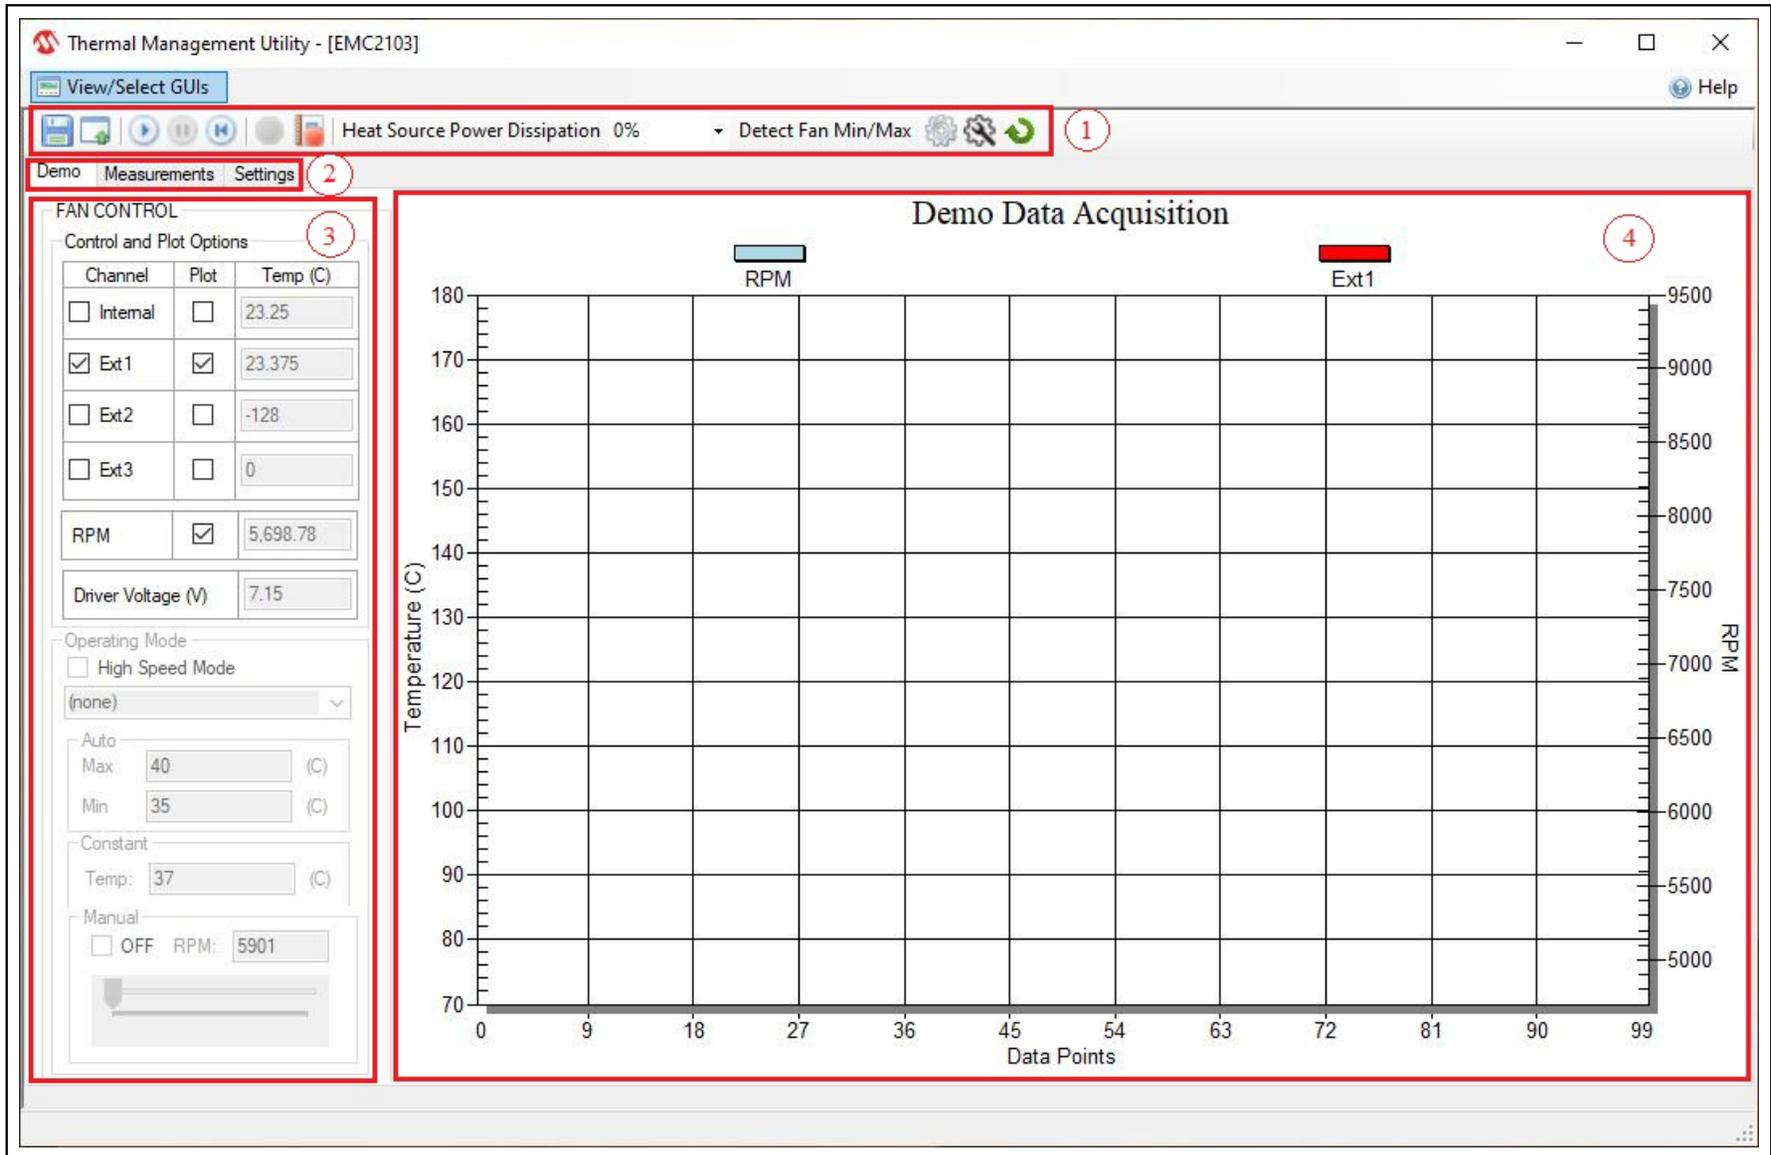

FIGURE 3-2: Thermal Management Utility Main Window.
The Thermal Management Utility main window (Figure 3-2) consists of a Control Toolbar (marked in Figure 3-2 with the number 1), a View Selection section (marked with the number 2), a Demo Options section (3) and a Temperature/RPM Plots section (4).